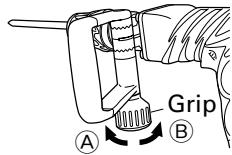

Fig. 5
- (1) Loosen the handle by turning the grip in the direction of Ⓐ as shown in Fig. 5.